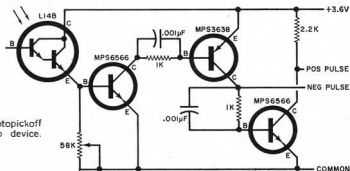

Fig. 10. Suggested photopickoff for use as a start/stop device.
**Starting and Stopping.** There are many ways to start the clock, and all depend on providing the START input jack with a positive-going pulse. For races of all types, you can use the photopickoff shown in Fig. 10 at either the start or finish line. Place a light source on one side of the track, focused either by a lens or a length of tubing in front of the lamp so that the light beam strikes the photo-Darlington transistor. A similar lens system, or length of tubing can be placed over the photo transistor to prevent triggering by ambient light. The switch shown in Fig. 10 is used to select either the presence or absence of light as the trigger.